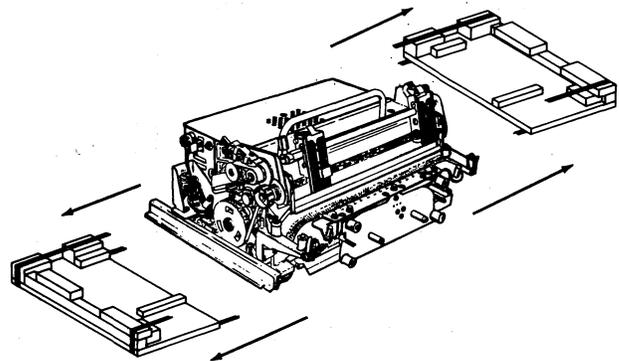

Fig. 13—Printer and Shipping Pallet
- 3.16 Cut tape (or remove rubber band) securing shipping pallet and remove printer (Fig. 13).